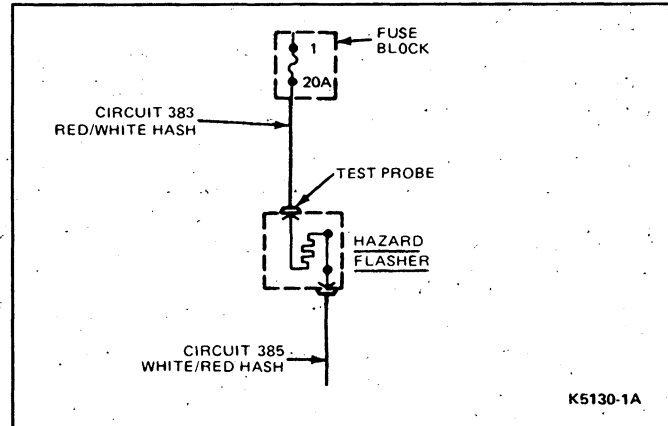

FIG. 11 Hazard Warning Flasher Power Test
2. Contact probe of test lamp to the wire connection at hazard flasher socket (red wire with white—Circuit No. 383). Refer to Figure 11. Hazard warning flasher is taped to windshield wiper/washer wiring behind wiper/washer switch on